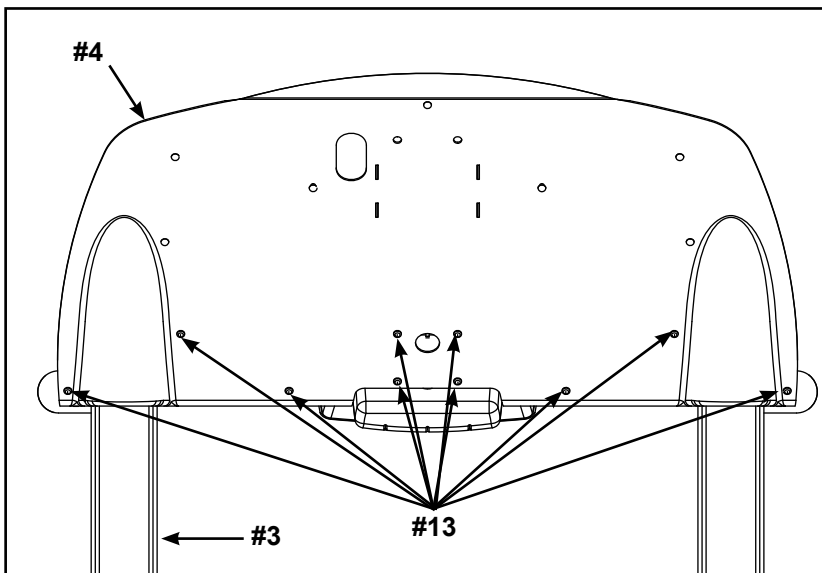

Figure 6
D. Using a Phillips screwdriver secure the console back (#4) to the upright assembly (#3) using ten screws 8-32 x .38" (#13). Fully tighten the two screws installed in step 7C. See Figure 6.